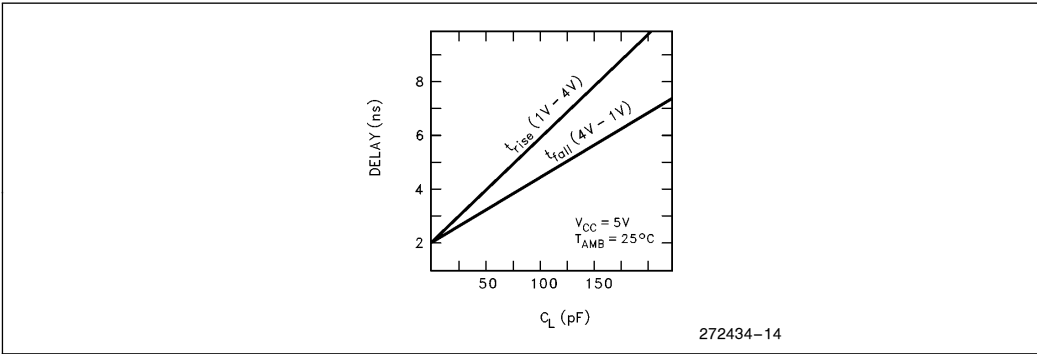

**Figure 15. Typical Rise and Fall Variations versus Load Capacitance**
5. Specified for a 50 pF load, see Figure 15 for rise and fall times outside 50 pF.
6. See Figure 15 for rise and fall times.